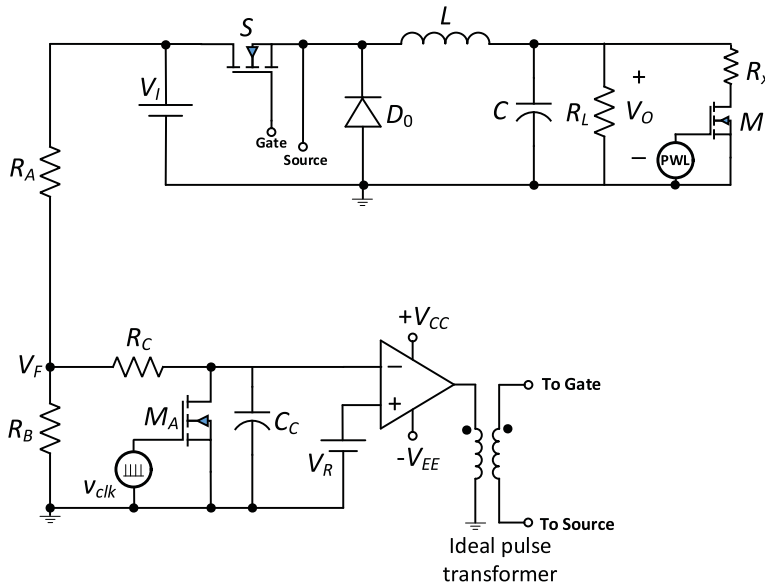

Figure 44.3 Circuit of the buck dc–dc converter with input voltage feedforward control used to simulate step change in the load resistance.
1. Construct circuit shown in Figure 44.3 on the circuit simulator. The circuit consists of a series connection of a resistor R_x and an ideal MOSFET M and is placed in parallel with the load resistor R_L . Let $R_x = 10 \Omega$. This is needed in order to obtain the step change in the load resistance with respect to time.